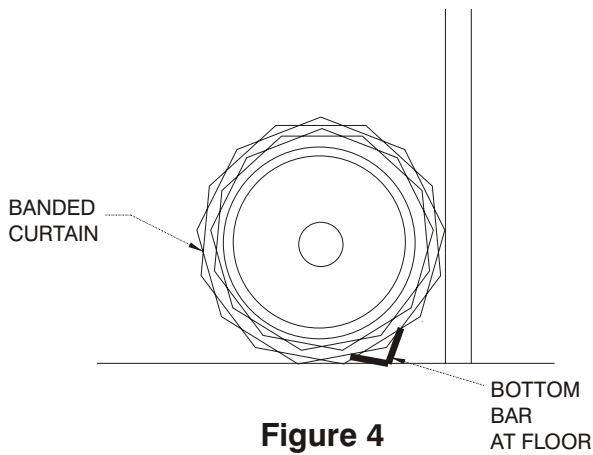

Figure 4
1. Clean the floor at inside of opening and lay the coiled door in position shown. See Figure 4.